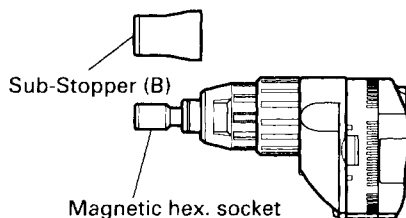

Fig. 7
1. Dismounting the hex-socket (Fig. 7)